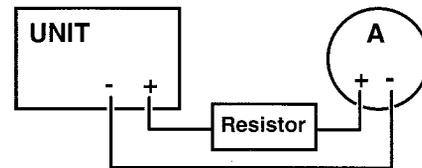

fig. 2
- 1 **Connect a resistor and ammeter to the unit in series** (see fig. 2)